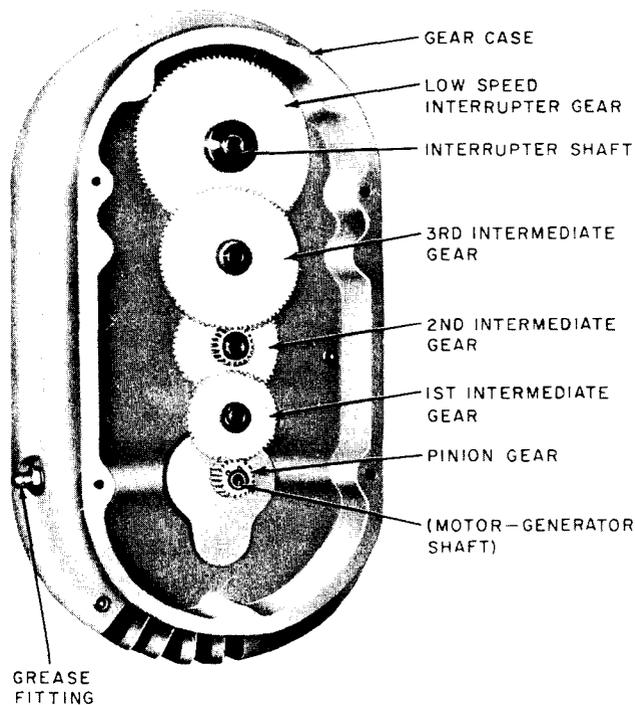

Fig. 3—Interrupter Gears—Gear Case Cover Removed—Tech Systems Company (formerly Electric Specialty Company)
3.03 Interrupter Gears (See Fig. 3 and 4):